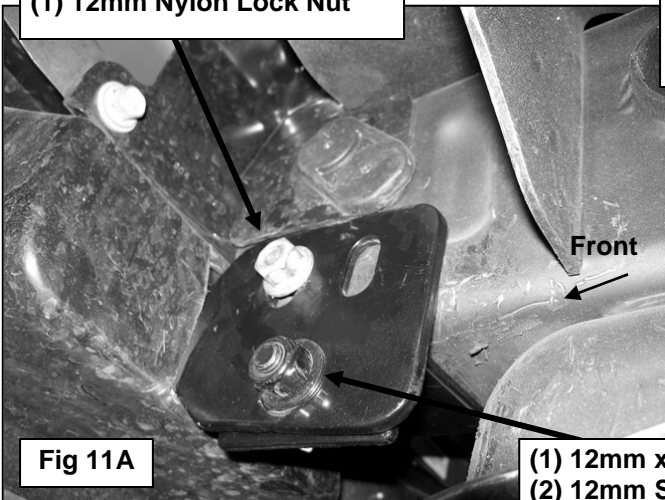

Fig 11A
- b. **Driver/Left side Mounting Bracket installation:** Select (1) Lower Support Bracket. Line up the rear hole in the Support Bracket with the previously installed Bolt Plate. Secure the Support Bracket to the Bolt Plate with (1) 12mm x 24mm STD Flat Washer and (1) 12mm Nylon Lock Nut, **(Figs 11A & 11B)**. Do not tighten at this time.
Select (1) Mounting Bracket. Insert (1) 12mm x 140mm Long Hex Bolt and (1) 12mm x 24mm STD Flat Washer through the forward hole in the Support Bracket, both sides of the frame channel and out the forward hole in the Mounting Bracket, **(Figs 11A & 11B)**. Secure the Mounting Bracket with the included (1) 12mm x 24mm STD Flat Washer and (1) 12mm Nylon Lock Nut.
Bolt the bottom of the Support Bracket to the Mounting Bracket as previously described in **Step 6a**, **(Figs 11A & 11B)**. Do not fully tighten hardware.